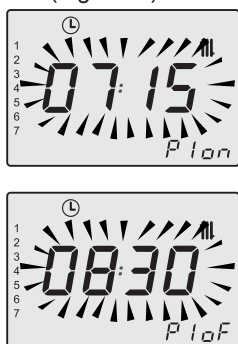

Fig. 2.13
To confirm once time has been set press key 17 then 12 to exit back to the day/group of days selection (Fig. 2.13).